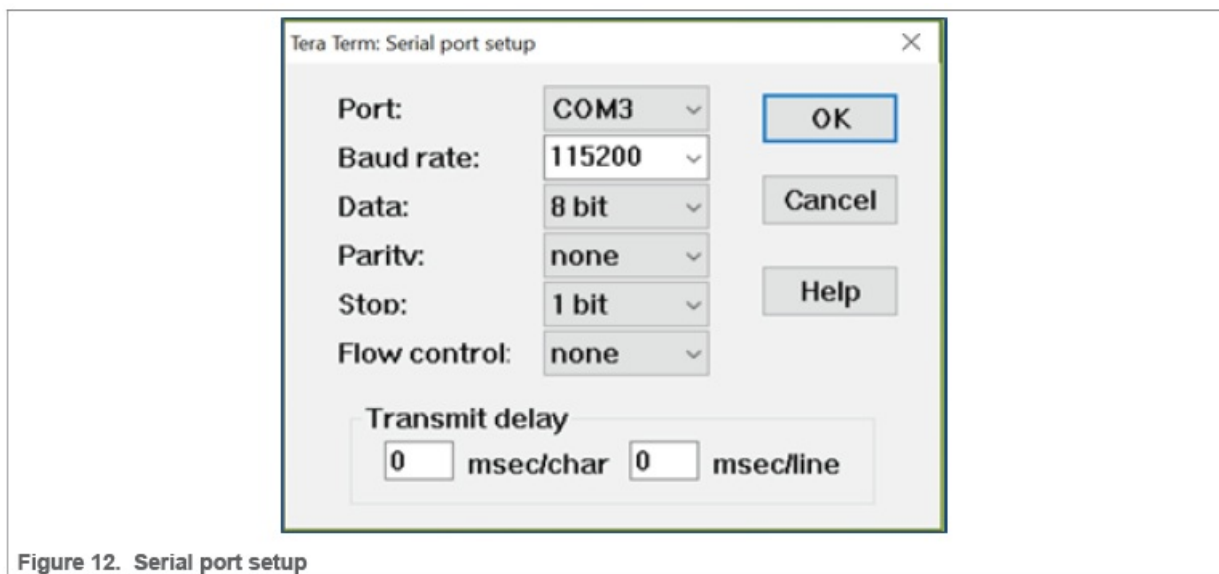

Figure 12. Serial port setup
- Establish a serial connection with your device by entering the serial settings as shown in Figure 12. Ensure to replace the COM port setting with the COM port associated with your kit.